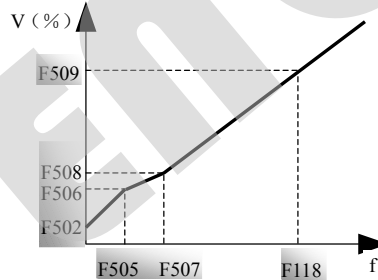

Fig5-8 Polygonal-Line Type V/F Curve
- User may define on its own polygonal-line type V/F curve as per its requirements and actual load, as shown in Fig 5-8.